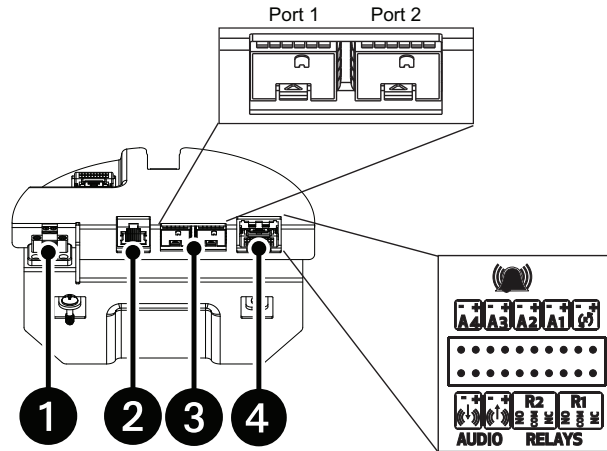

Figure 11. Wiring Connections: 100 to 240 VAC
1. Unscrew the two screws on the camera enclosure (See #3 in Figure 11) using a 5/32-inch hex bit (not supplied) to open the lid.
2. Insert/remove the SD card into/from the connector located behind the camera (See #2 in Figure 11) (**NOTE:** Orientation of the SD card as identified by the label on the panel.).